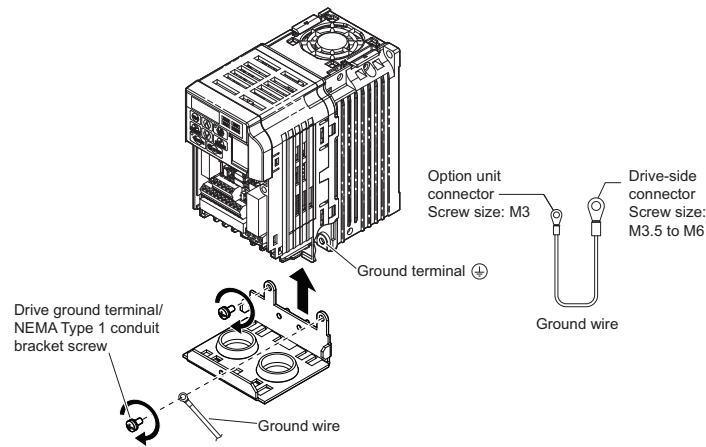

Figure 11 Reattach the NEMA Type 1 Conduit Bracket and Connect the Ground Wire
- On NEMA Type 1 enclosure drives, the screw for the drive ground terminal also acts as one of the screws that attaches the NEMA Type 1 conduit bracket to the drive. Reattach the NEMA Type 1 conduit bracket according to Figure 11 and connect the drive-side of the ground wire to the drive ground terminal.